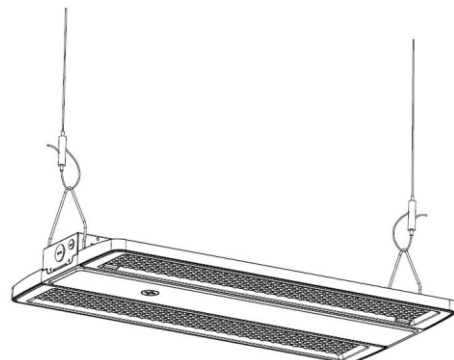

FIG.4
- 3 When making electrical connections, employ UL-approved wire connectors and conduit, adhering to local codes, to connect the fixture to the main power source. (Figure 4)